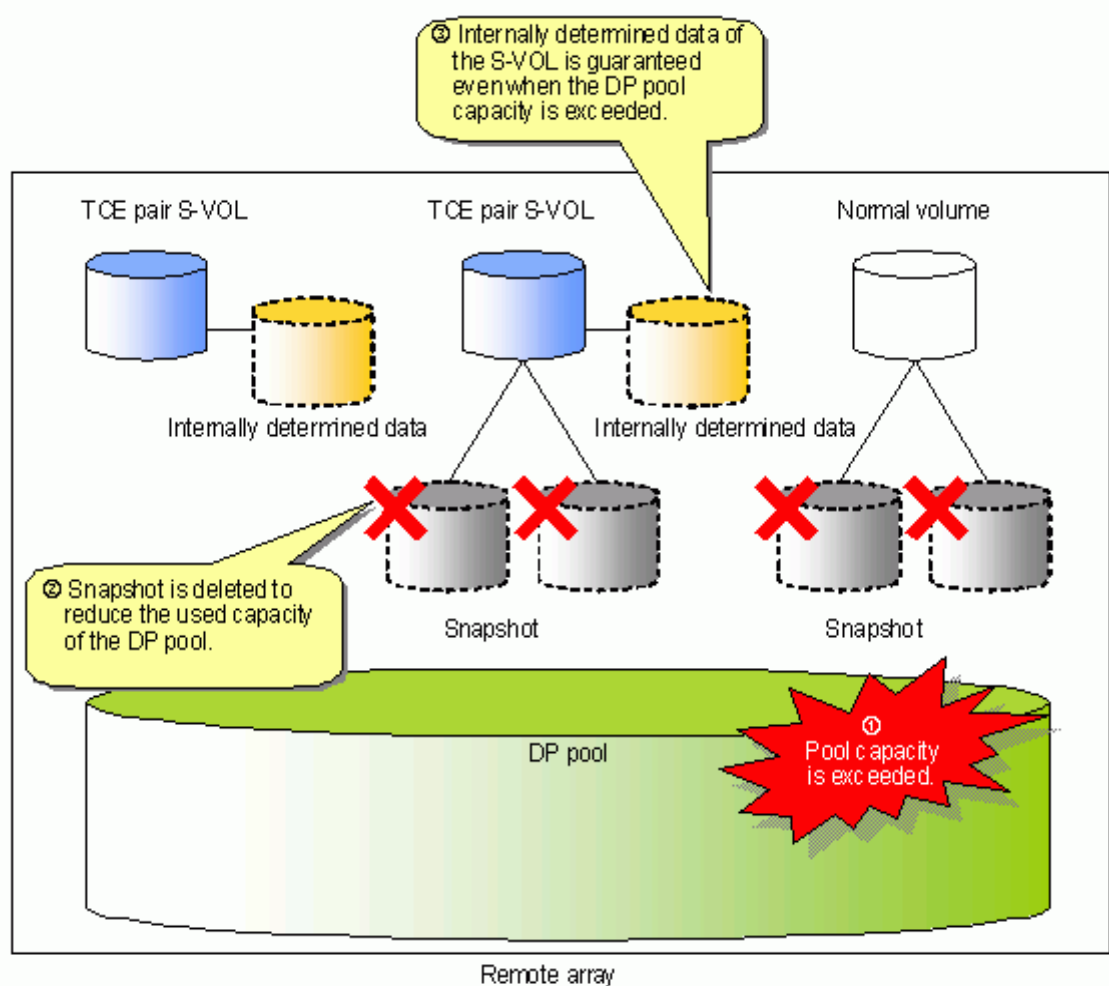

Figure 21-3: Effects of exceeding the DP pool capacity in the remote array
The remote array deletes the copied data used by Snapshot and changes the Snapshot pair status to Failure () if the capacity of the DP pool used by the remote array reaches the limit (in Figure 21-3 on page 21-13). However, since the internal pre-determined S-VOL data is not subject to deletion (), the S-VOL can be used for takeover even if the DP pool capacity is exceeded.
1. TCE pair and Snapshot pair share the same DP pool, but data consistency policies after pool over are different. See Figure 21-3 on page 21-13 for more details.